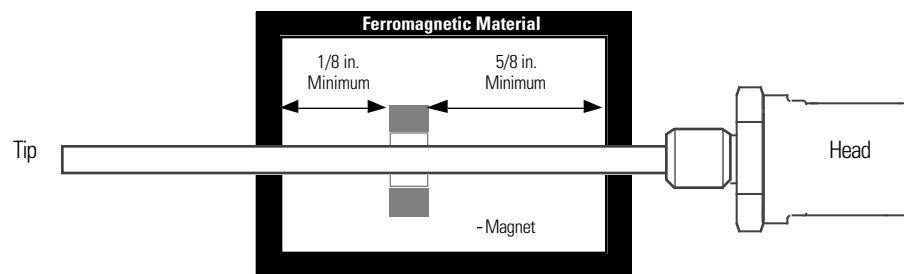

Figure 4.2a
2. Install the permanent magnet over the sensor rod. Mount the permanent magnet to the movable device whose displacement will be measured. To minimize the effect of magnetic materials (i.e. iron, steel, etc.) on the magnetic field of the permanent magnet, ensure the minimum spacing requirements are met as shown in Figures 4.2a-c. (Any non-magnetic materials can be in direct contact with the permanent magnet without affecting performance.)